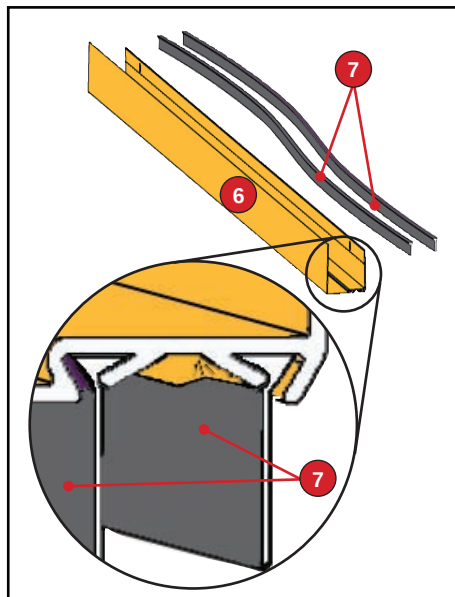

Figure 24
1. Slide the sweep fins into the tracks located on the bottom of the door sweep (Figure 24).